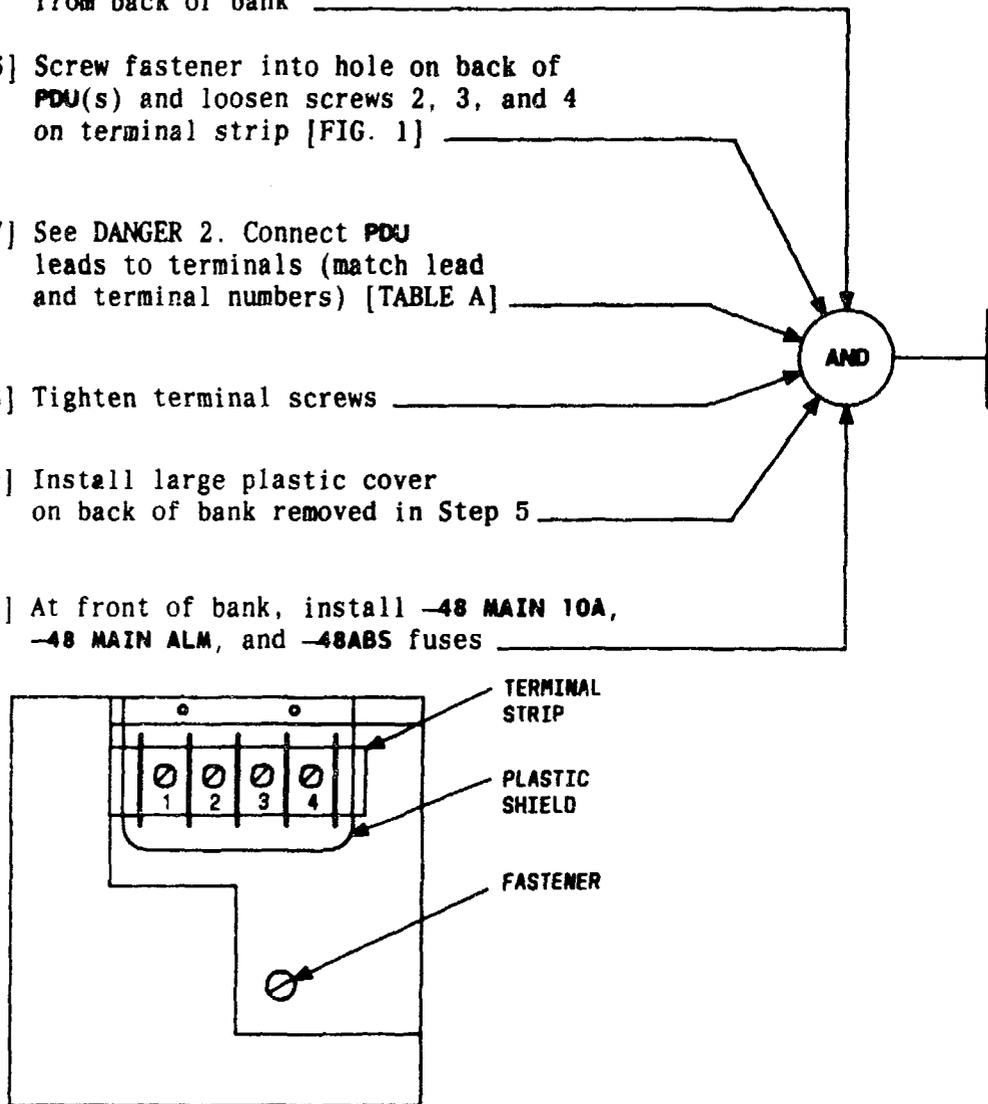

FIG. 1 - Rear View of PDU Slot
- [6] Screw fastener into hole on back of PDU(s) and loosen screws 2, 3, and 4 on terminal strip [FIG. 1]